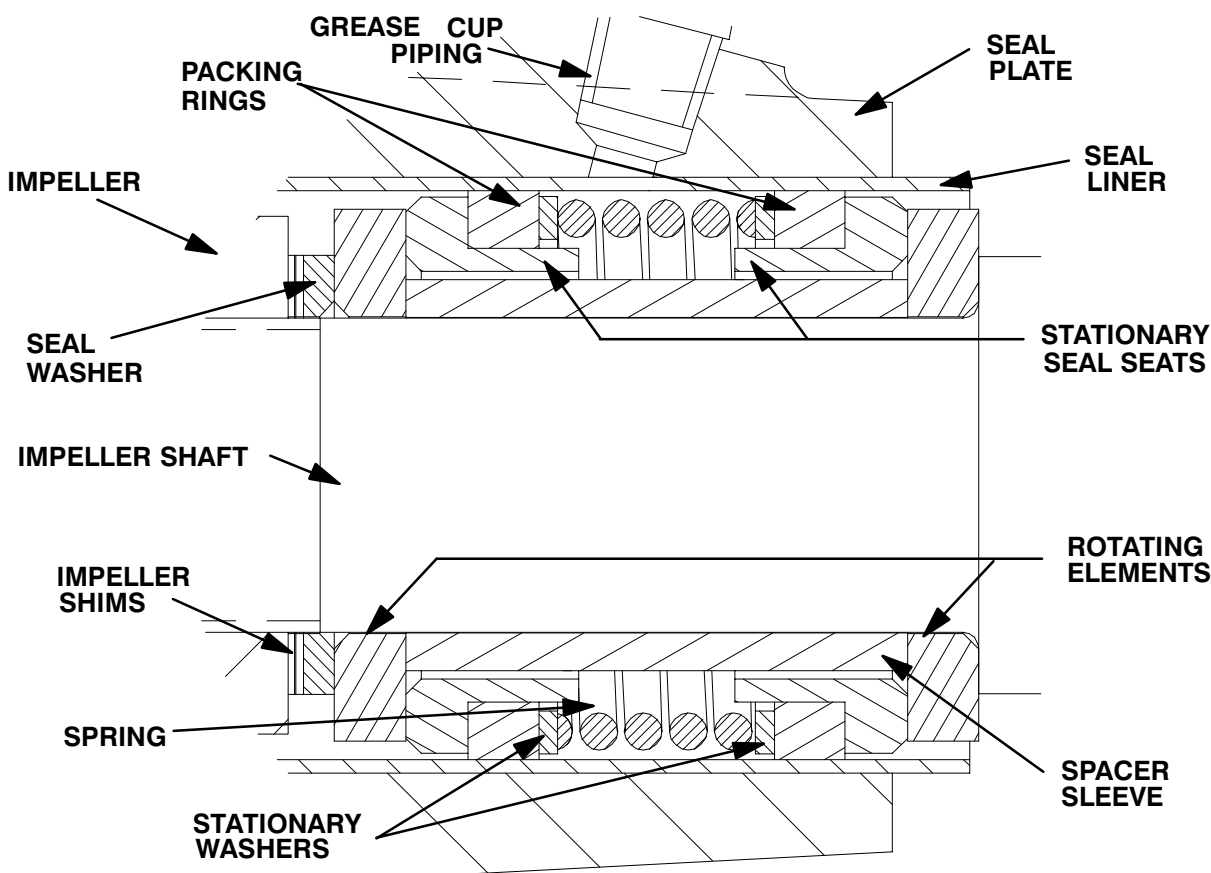

Figure 5. GS1250 Seal Assembly
Before removing the impeller, turn the cross arm on the automatic lubricating grease cup (15) clockwise until it rests against the cover (see Figure 5 in **LUBRICATION**). This will prevent the grease in the cup from escaping when the impeller is removed.
To ease installation of the seal, lubricate the packing rings and seal liner with water or a very **small** amount of oil, and apply a drop of light lubricating oil on the finished faces. Assemble the seal as follows, (see Figure 5).